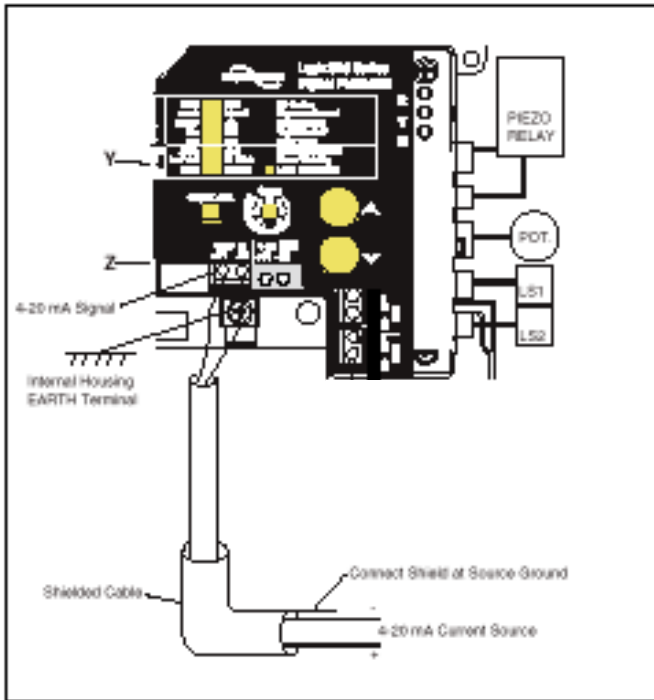

Figure 8. Connections
2. Supply air should meet IEC 770 or ISA 7.0.01 requirements. A coalescing filter should be installed in front of the supply air connection ↓ (Figure 8). Now connect the air supply to the filter, which is connected to the Logix 500 Series positioner.
5. Connect the outlet connector ↑ (Figure 8) of the positioner with tubing, independent of the action (direct or reverse).
NOTE: The input loop current signal to the Logix 500si should be in shielded cable. Shields must be tied to a ground at only one end of the cable to provide a place for environmental electrical noise to be removed from the cable. In general, shield wire should be connected at the source. (Figure 8)